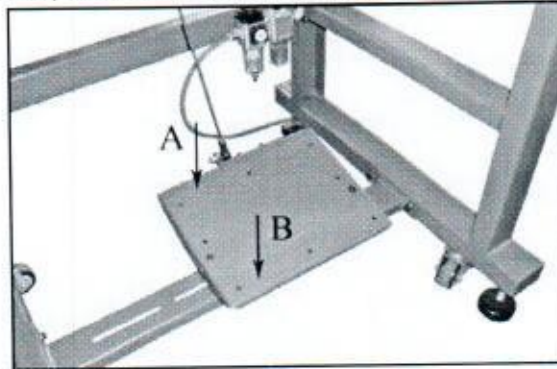

Fig.2
3.2 Start pedal (Fig.2)
First of all, switch on the main switch of the machine to check if the rotation of the motor conformable to the red allow on the belt cover. Then operate the start pedal in three different movements. (Fig.2)